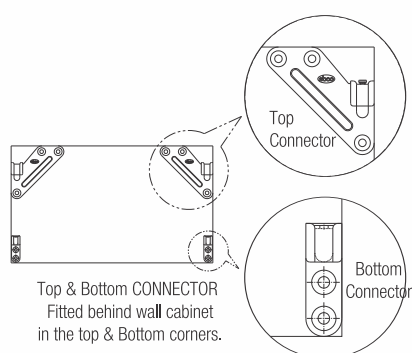

Fig.1
1. Fit Left & Right Top connectors behind wall cabinet in the top corners (Refer Fig. 1).
1. Fit bottom connectors behind wall cabinet at the bottom corners (Refer Fig. 1).
1. Cabinet can be fitted directly on to an Anchor Bolt or on a Wall Plate as shown in Fig. 1.